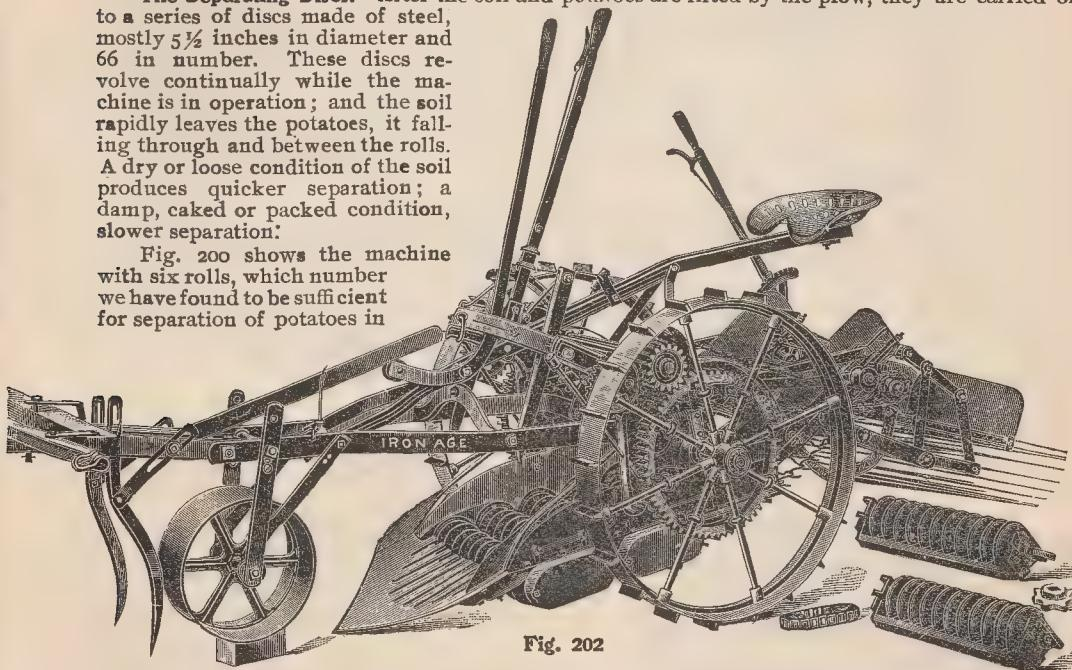

Fig. 202
No. 122—Potato Digger, as shown in Fig. 202 . . .	" " 1268 " . . .
**The Elevator Attachment.** When the soil conditions have reached a state where satisfactory separation cannot be produced with the use of six rolls, it is then necessary to remove the fifth and sixth rolls and apply the elevator attachment (full directions are sent with each attachment). After this attachment is applied the machine is as shown in Fig. 202. When the potatoes and soil have passed over the four rolls and the separation has partly been accomplished, the potatoes and soil yet remaining are raised on the elevator and thrown on to the shaker where further separation is produced. The potatoes are finally delivered in a narrow space, in the middle of the row, or when the separator attachment, as shown in Fig. 231, is applied the vines may be separated from the potatoes.